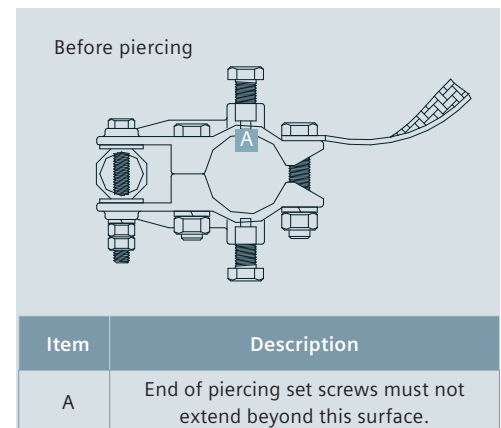

Figure 6: Before piercing
**Note:** Verify the piercing set screws are backed out all the way before sliding the handle assembly on the bottom shaft section (refer to Figure 6: Before piercing).